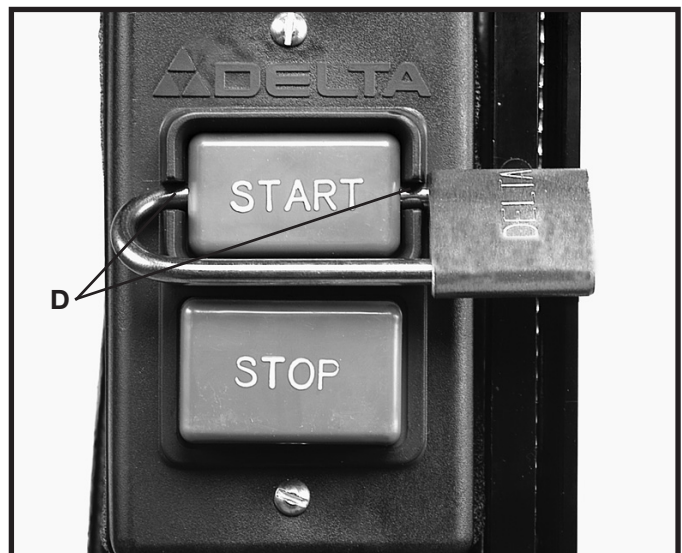

Fig. 16
**IMPORTANT:** When the band saw is not in use, the switch should be locked in the "OFF" position using a padlock (C) Fig. 16, (with  $\frac{9}{16}$  diameter shackle) through the two holes (D) in the switch plate, as shown in Fig. 16. **NOTE:** Padlock shown is available as accessory Model 50-325.